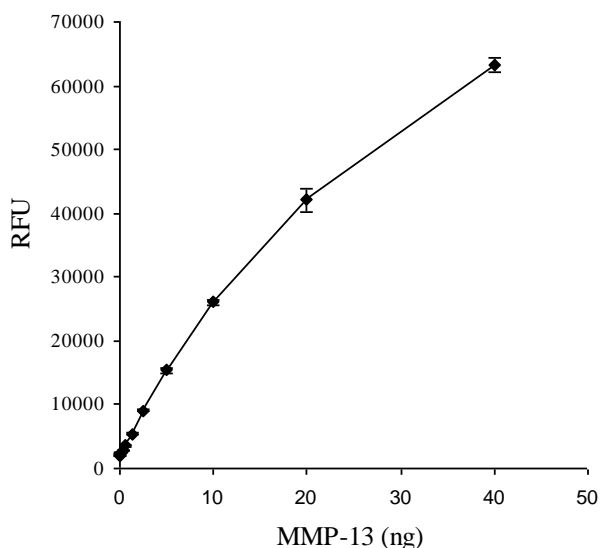

Figure 1. Sensitivity of the SensoLyt[®] 520 MMP-13 assay kit
The SensoLyt[®] 520 MMP-13 Assay Kit provides a convenient assay for high throughput screening of MMP-13 inducers and inhibitors. It also detects MMP-13 activity in a variety of biological samples using a 5-FAM/QXL[™]520 fluorescence resonance energy transfer (FRET)² peptide. In the intact FRET peptide, the fluorescence of 5-FAM is quenched by QXL[™]520. Upon cleavage into two separate fragments by MMP-13 (**Scheme 1**), the fluorescence of 5-FAM is recovered, and can be monitored at excitation/emission wavelengths = 490 nm/520 nm. With excellent fluorescence quantum yield and longer wavelength, 5-FAM shows less interference from auto fluorescence of test compounds and cellular components. This 5-FAM/QXL[™]520 substrate can detect the activity of nanogram of MMP-13 (**Figure 1**).
- Plot data as RFU versus concentration of test compounds or enzyme concentration (Figure 1).